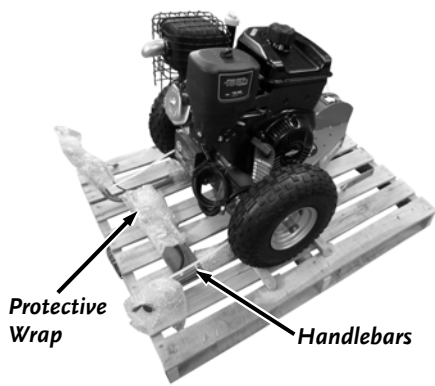

Figure 4
6. Remove the Handlebars from the Pallet and remove the Protective Wrap using a utility Knife (**Figure 4**).